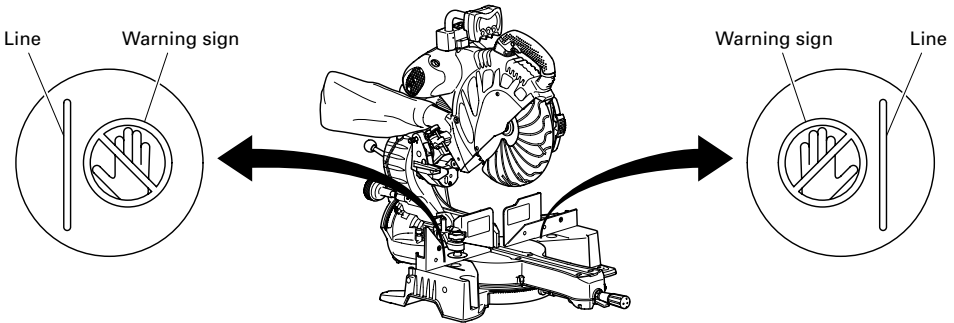

Fig. 23
- * Never place your limbs inside of the line next to warning sign while the tool is being operated. This may cause hazardous conditions (see Fig. 23).